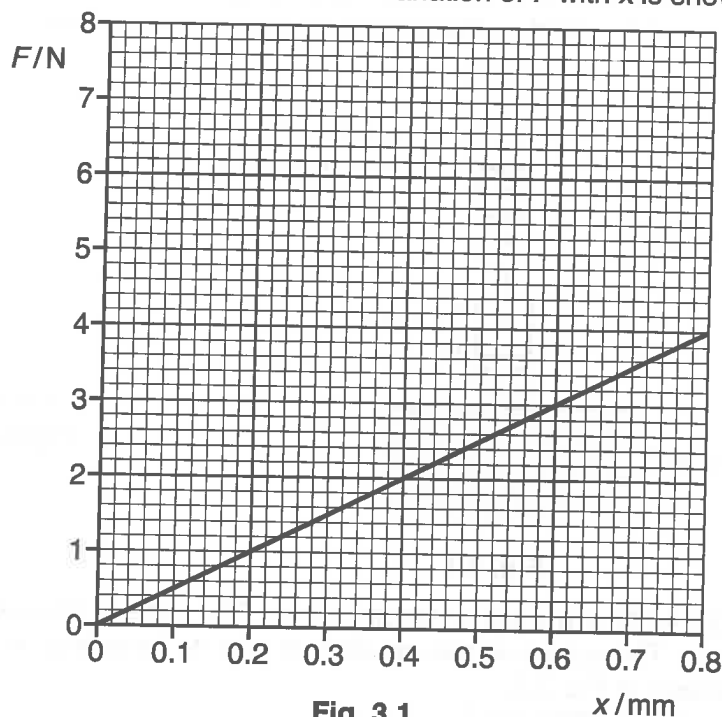

Fig. 3.1
- (b) A wire is fixed at one end so that it hangs vertically. The wire is given an extension x by suspending a load F from its free end. The variation of F with x is shown in Fig. 3.1.